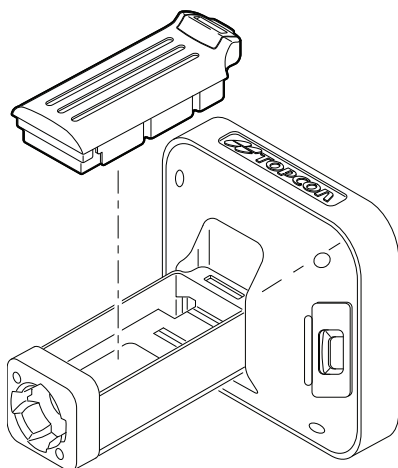

Figure 2-14. Insert the GR-3 Batteries
To attach the batteries (Figure 2-14):
4. Insert the AA battery shell into the battery pocket of the receiver as shown in “To attach the batteries (Figure 2-14):” on page 2-15.